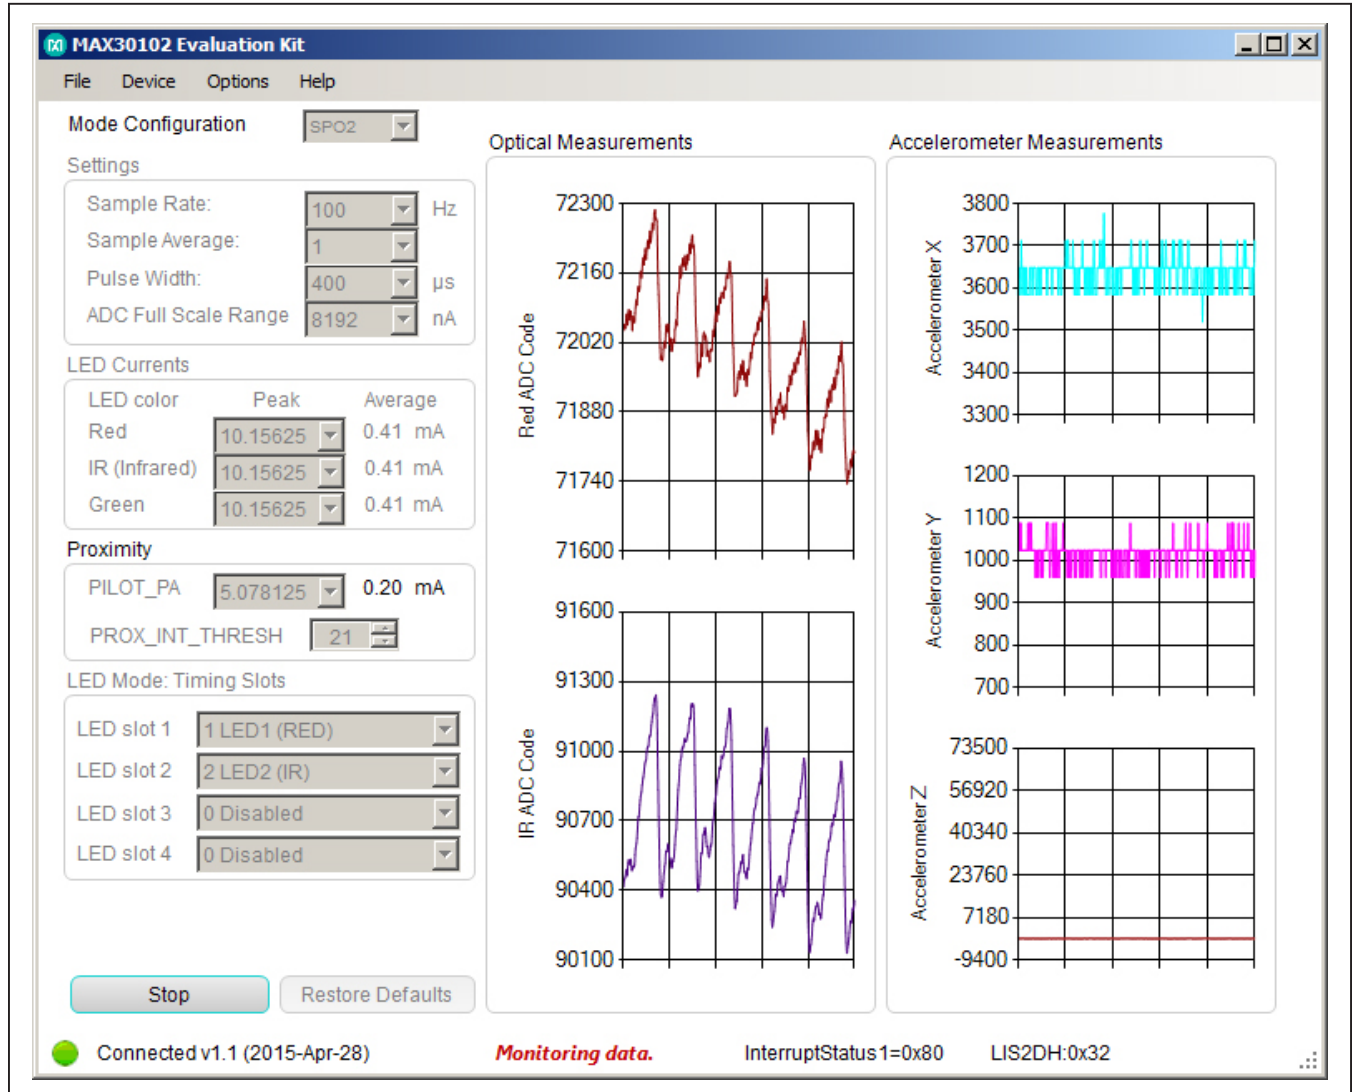
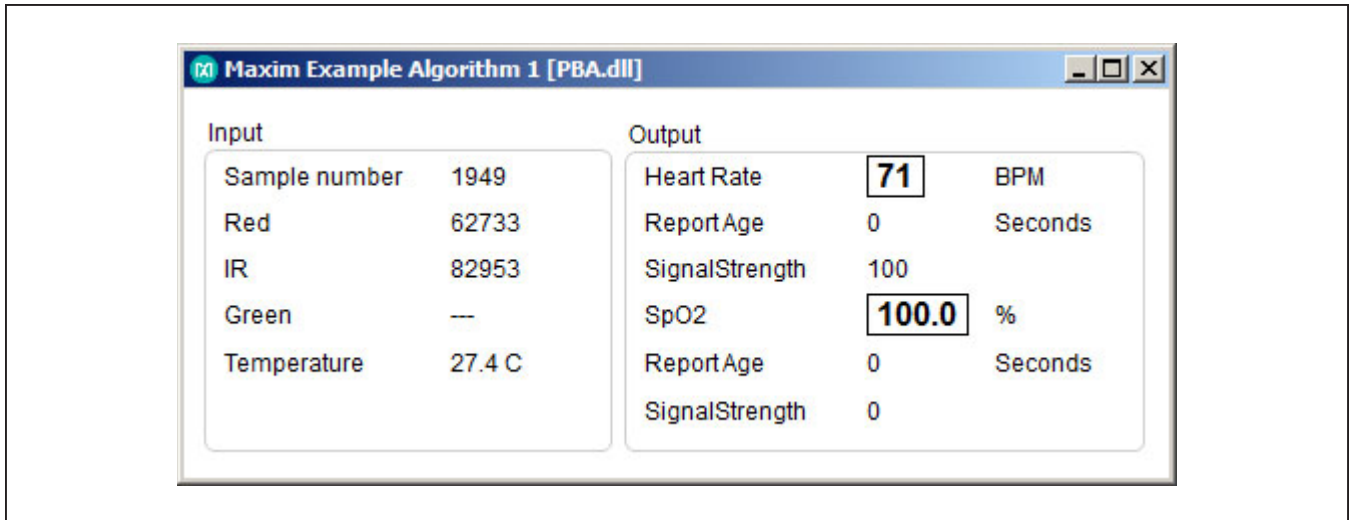
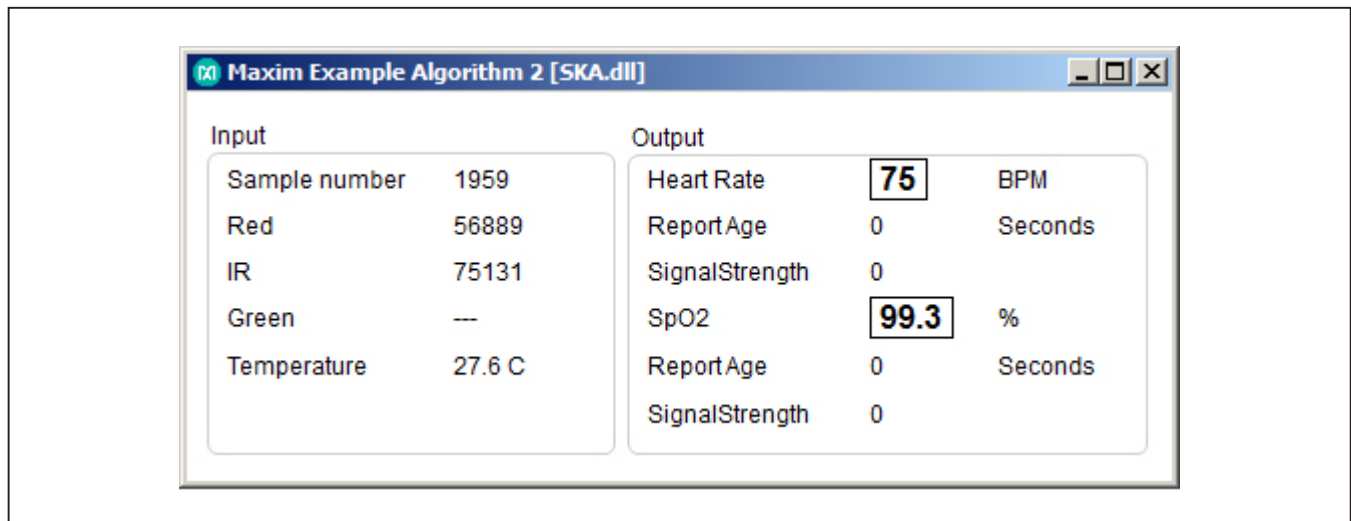

Figure 2. MAX30102 EV Kit Main Window (Sampling Data)
Figure 3. Maxim Example Algorithm 1 Window
Figure 4. Maxim Example Algorithm 2 Window
- 7) Place your finger in front of the MAX30102 (U4) of the EV kit and observe the **Measurement** graphs. See Figure 2. Example algorithm 1 and 2 are shown in separate windows (Figure 3 and Figure 4).
Figure 3 and Figure 4 are example algorithms to calculate heart rate and SpO2. They are calculated using the raw ADC data from the LEDs.